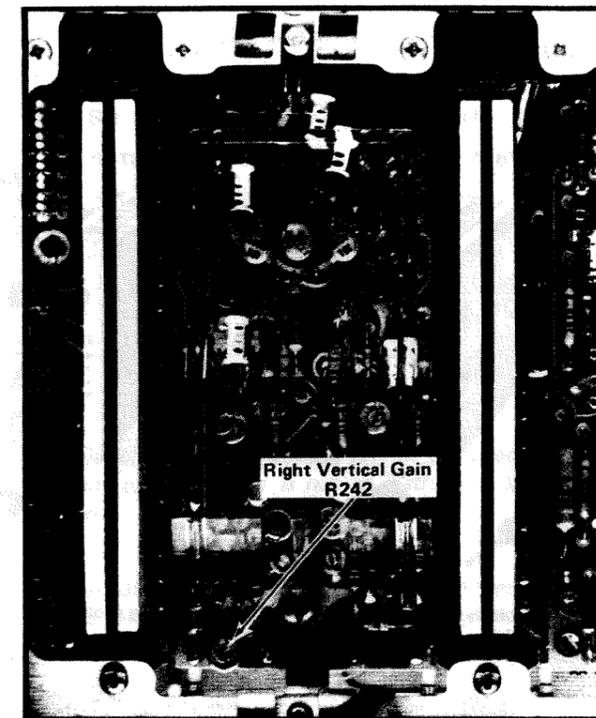

Fig. 5-11. Location of Right Vertical Amplifier Gain control R242.
- ADJUST—Right Vertical Amplifier Gain adjustment R242 (see Fig. 5-11) to match the gain of the Right Vertical to the gain of the Left Vertical within 1% (0.06 division).